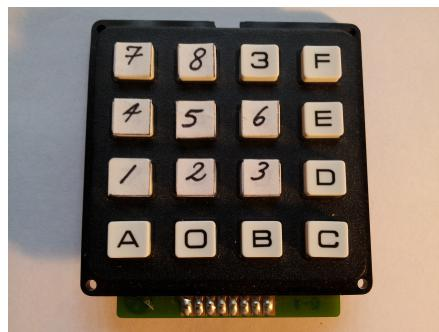
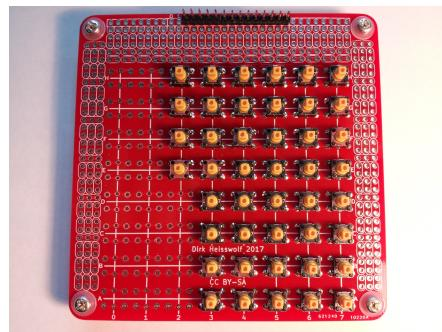

Figure 1.4: 4x4 matrix keypad by EOZ, with some key labels attached
Figure 1.5: Custom 8x6 matrix keypad
4. A matrix keypad. Standard 4x4 matrix keypads (Figure 1.4) are convenient but an 8x6 keypad (Figure 1.5) allows more functions to be added easily. Interfacing to each type of keypad is covered in Chapter 4. The 8x6 matrix keypad shown was designed by Dirk Heisswolf and manufactured by Seeed Studio. I have several 8x6 matrix keypad PCB's left (contact me at daniel.milutinovic@yahoo.com.au) and the files are available at <https://github.com/DanielMilutinovic/MC-II> if you would like to order them (Seeed Studio has a minimum order of 10 PCB's). The PCB's can accommodate up to 64 keys (8 rows, 8 columns) but we will only use 6 columns. If making the 8x6 matrix keypad you will need to solder 0.1" (2.54mm) male header pins and 44 push buttons to the PCB. I used Omron 6x6 tactile switches, part no. B3F-1052, which work well.